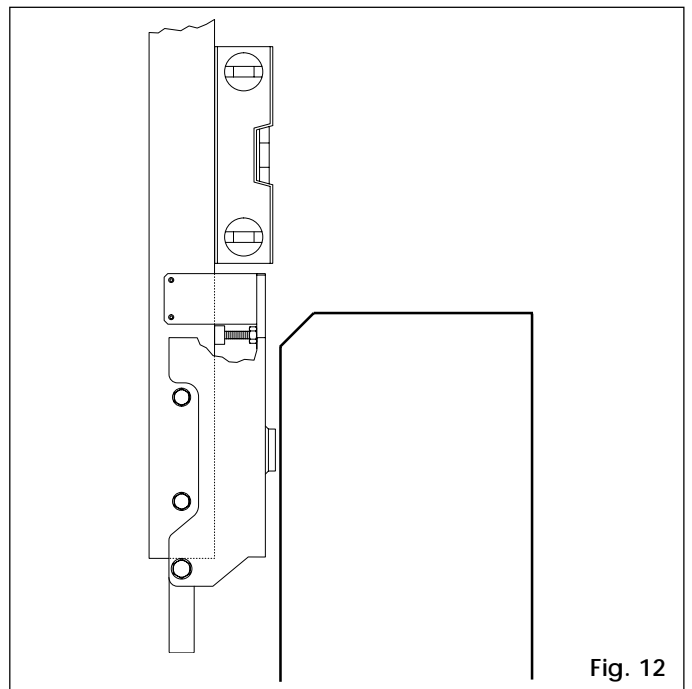
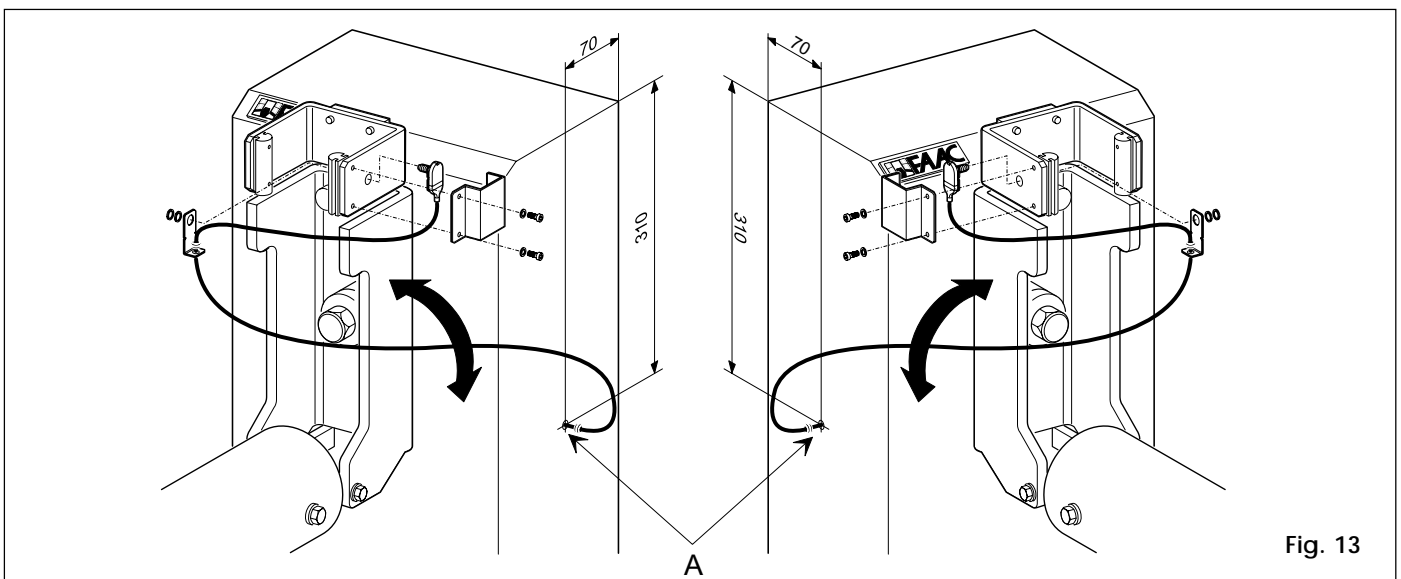

Fig. 12
Fig. 13
- The pivoting beam must be levelled as shown in fig. 12. To mount the sensor (electrical barrier lock), refer to fig. 13. The rubber strip on the rectangular beam must be oriented towards the closing direction.
MOUNTING THE SENSOR: DRILL A 10 mm HOLE IN POSITION **A** AND ASSEMBLE THE SENSOR AS SHOWN IN FIG. 13. CONNECT THE MICROSWITCH'S N.O. CONTACT (BLACK AND BLUE WIRES) IN SERIES WITH THE STOP CONTACT ON THE 625 MPS CONTROL UNIT.